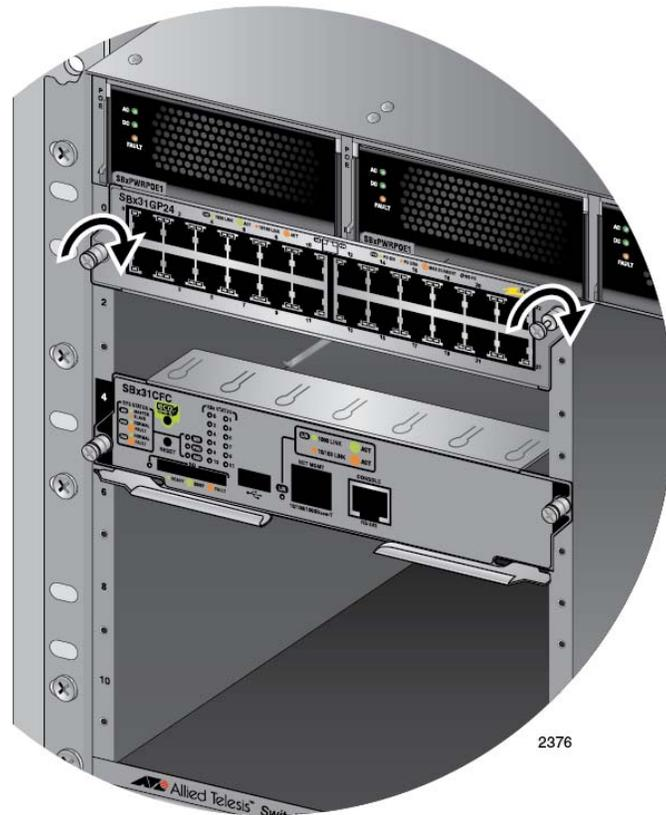

Figure 80. Tightening the Thumb Screws on an Ethernet Line Card
5. Finger tighten the two thumbscrews on each side of the line card to secure it to the chassis, as shown in Figure 80 on page 123.